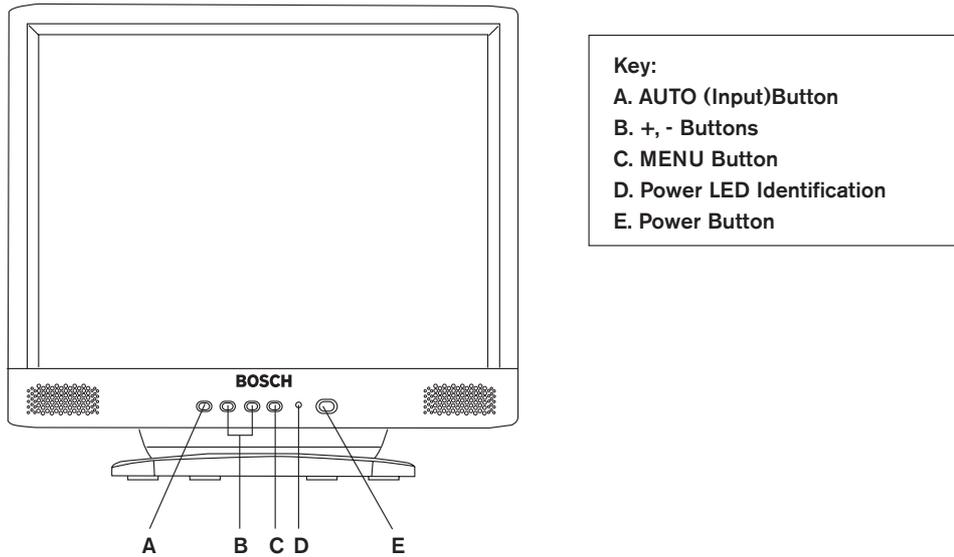

Figure 1: Front Panel
6.1 Front Panel Controls (Figure 1)